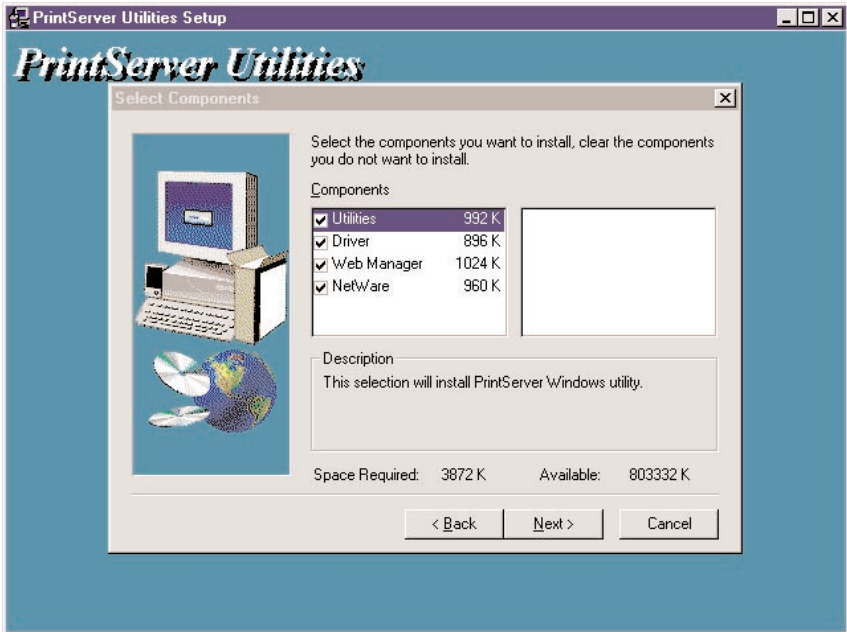

Figure 4-5. Choosing the components.
5. Use the **Browse** button to specify the destination folder where the utilities will be installed. To go back to the previous screen, click on the **Back** button. To cancel your changes without saving, click on the **Cancel** button. Click on the **Next** button to save your changes and go to the next screen (Figure 4-5).